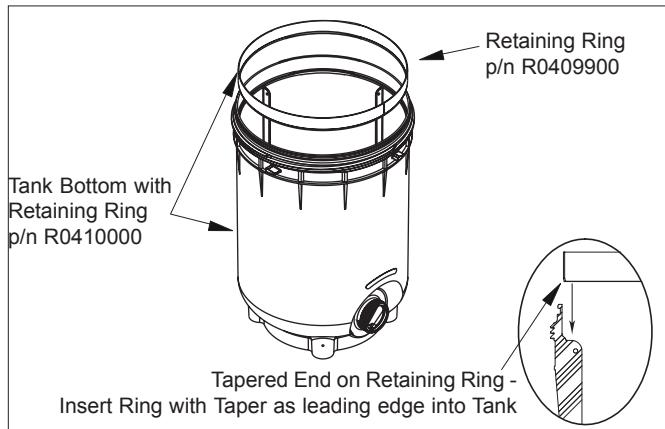

Figure 4. Filter Tank Bottom with Retaining Ring
- 2.1 Place new filter tank bottom on equipment pad (see Fig. 4).
Note The CJ series filter tank retaining ring (p/n R04099000) can be inserted into an existing CJ series filter tank bottom. The ring is tapered (bent) on one end to allow ease of insertion into the tank (see Fig. 4). Carefully install the ring with the tapered side as the lead-in. If the ring does not fit into the tank, use CJ series filter tank bottom with retaining ring (p/n R0410000).